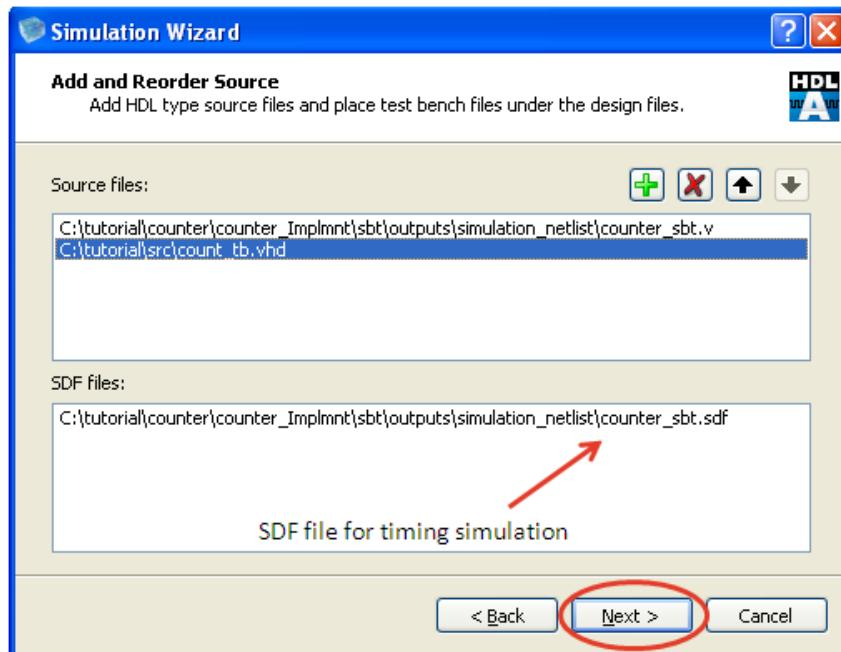

Figure 10-20 : Add Test bench File.
4. The simulation wizard automatically adds the post routed netlist “**counter_sbt.v**” in “Source files” panel and the verilog delay format file “**counter_sbt.sdf**” under “SDF files” panel as shown in Figure 10-20. Click on “+” icon to add the “**count_tb.vhd**” test bench to the “Source files” panel. Click on “Next”.